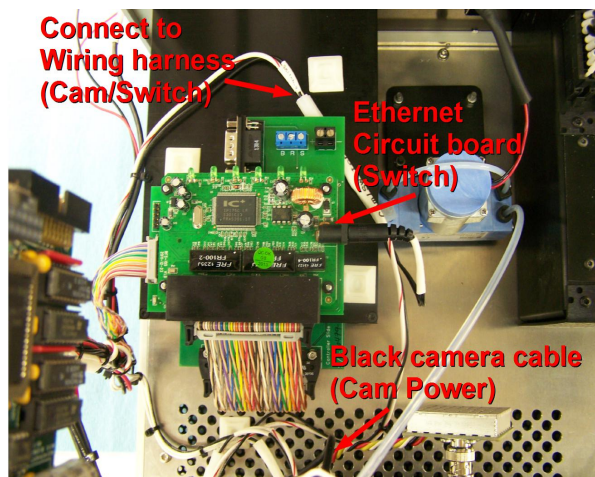

Figure 5: Route of Camera Switch Power Cable.
- Route the *Camera Switch Power Cable (617340)* so that it connects to the *Black Cable* on the *Camera* (labeled *Cam Power*), the *Ethernet Circuit Board (Switch)*, and the *Wiring Harness (Cam/Switch)* as shown. Important: This Figure has been modified to showcase the best way to route the *Power Cable* and in no way wants you to unplug or remove the components that have been removed for this Figure. Attach a new *Cable Tie Mount (619018)* onto the *Control Board Cover* next to the *Ethernet Circuit Board* and tie down the wires with the [3] *Cable Ties (619108)* so that there is plenty of strain relief. **Note: Clip the *Cable Tie* that is holding the *Optics Amplifier Wires* (on the bottom panel) and use that *Cable Tie Mount* to neatly arrange both sets of wires (Figure 5).**